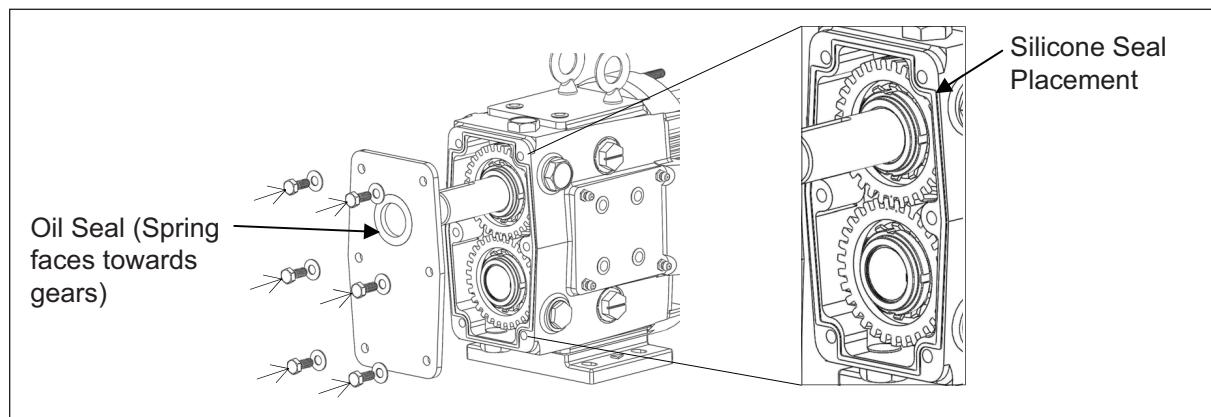

Figure 56. Installing Gear Casing Back Cover
10. Apply a light film of lubricant to the inside and outside diameters of the gear case cover oil seal. Using a press, install the oil seal into the back cover so that it is flush with the outside of the back cover and the spring is facing the gears. Apply a silicone sealant to the edges on the back of the gear case making sure there are no gaps. Slide the back cover onto the gear case, making sure that the shaft is centered on the oil seal, and secure it with the retaining bolts (*Figure 56*). It is important not to cut the oil seal on the shaft keyway; tape may be used to cover any sharp edges on the shaft. Install the oil plugs and fill the gear case with the recommended amount of oil using *Table 3* on page 18.